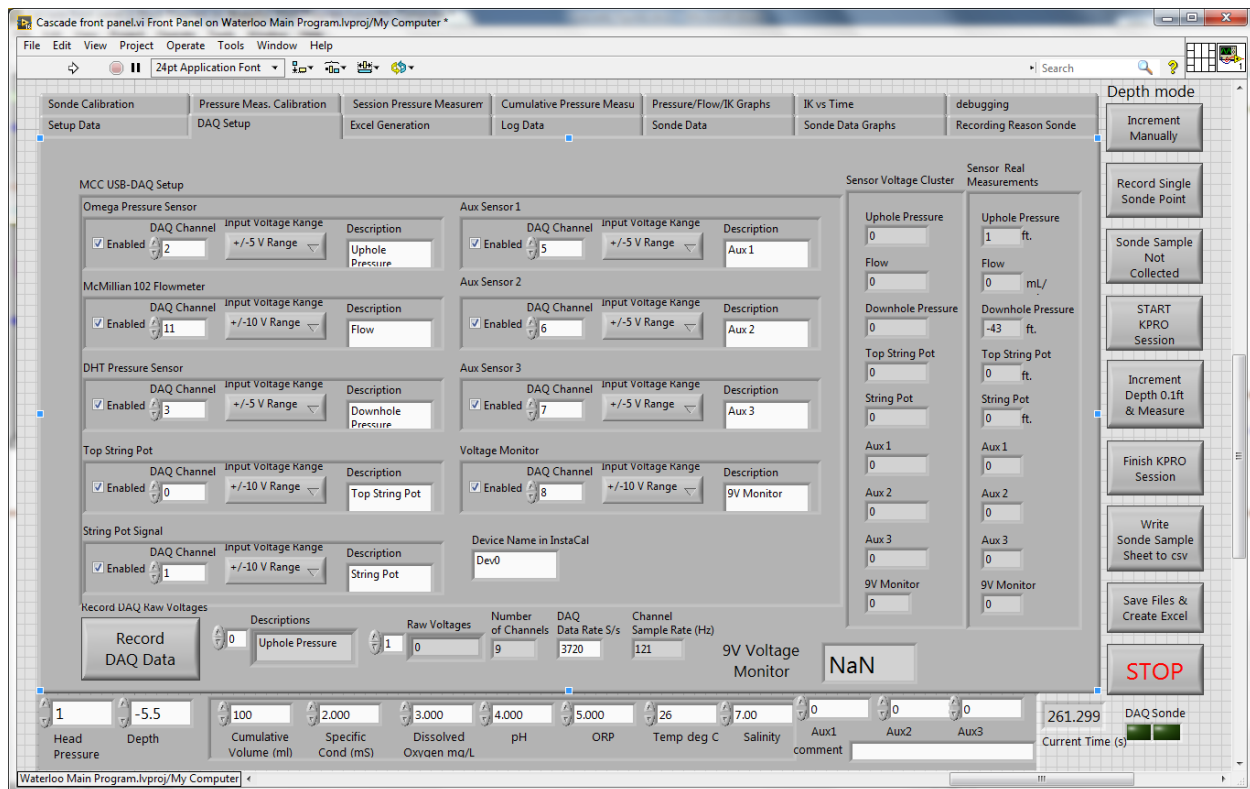
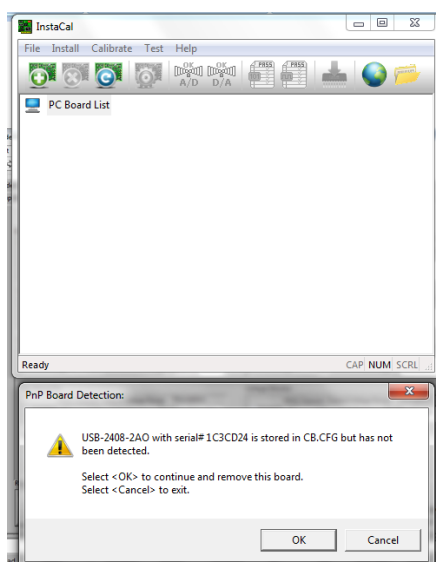

Figure 2: DAQ Setup Tab
Figure 3: Instacal Program Window (top) and Error Warning (bottom)
2. The second tab is the “DAQ Setup Tab,” and is displayed in Figure 2. This tab has controls and indicators that deal with the setup and communications with the Measurement Computing Corporation (MCC) Data Acquisition (DAQ) USB Model USB-2408-2AO, which is a 16 channel (single ended or 8 channel differential) data acquisition module with 2 analog outputs (AO). Setup and control of the MCC DAQ is accomplished through the Instacal program which can be accessed from the start menu and programs tab under “Measurement Computing.” The Instacal program is shown in Figure 3. If the MCC DAQ is found and properly identified, then the “PC Board List” will display the serial number and model number. Since the development computer was not attached to the Waterloo Water Sampling Module, the Instacal program displays the error message shown in the lower window in Figure 3. *The Labview program will not properly communicate the MCC DAQ if the Instacal program does not find the device. When first installing the MCC software and connecting a new MCC DAQ to a computer, the Instacal program will need to be run manually to find and identify the MCC DAQ device and create the CB.CFG file. The device name of the USB device found in the Instacal CB.CFG file is shown in the “Device Name in Instacal” indicator.*
The channel setup for the MCC DAQ occurs in the MCC USB-DAQ Setup Control Cluster shown on the left hand side of Figure 2. This control associates the readings from a specific DAQ channel with the physical measurement. It should not be necessary to change these values except to turn off unused sensors, if desired.
On the left hand side, an array of the active DAQ channels is shown indicating which channels have been set to ‘active’ on the ‘MCC USB-DAQ Setup’ control array on the DAQ Setup Tab shown in Figure 2. The array is concatenated to a single string to be sent to the USB DAQ unit; this is shown in the next indicator showing the delimited string. The settings for the voltage range for each channel is shown in the next indicator.